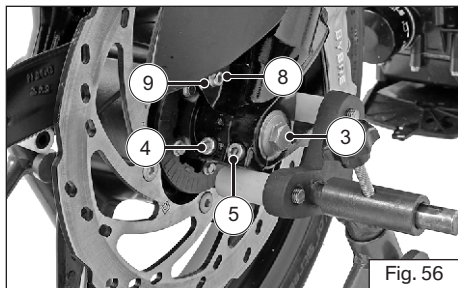

Fig. 56
- ◆ Remove the locking screw (3) (ref. Fig. 56).
- ◆ Loosen the right side clamping screws (4) and (5).
- ◆ Slightly press the quick-release axle (6) inward for a better grip on the right side.
- ◆ Mount the front wheel stand again and install the locking screw (3) with specified torque (ref. Fig. 56).